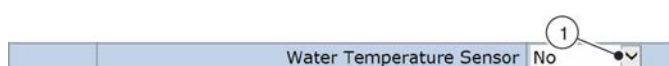

Fig. 64: Activating a water temperature sensor
This section (Fig. 64) allows you to configure a water temperature sensor. Select a setting from the drop down list (Fig. 64 /1): 'No', 'Cooling' or 'Combi-Coil'.
- ▶ Select a setting from the drop down list (Fig. 64 /1): 'No', 'Cooling' or 'Combi-Coil'.